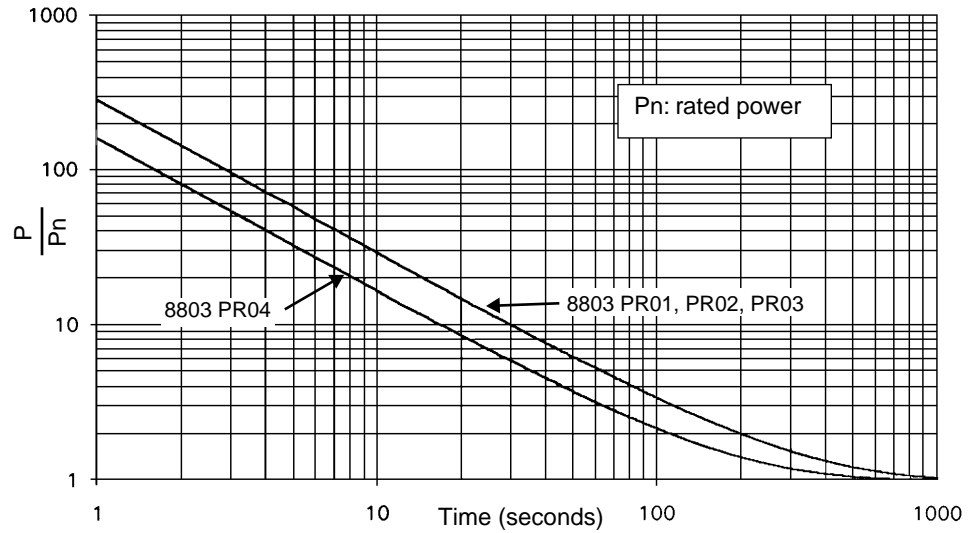

Figure 5-4 Typical Braking Resistor Overload Curve
Figure 5-4 shows the overload capability of the various resistors supplied as part of the dynamic braking resistor kits.
- As shown in Figure 5-4 on page 81, instantaneous power of resistors is 60 times (6000 W) the rated power for 5 seconds.